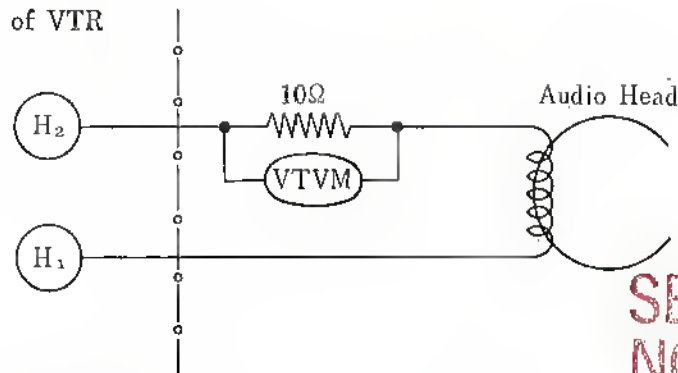

Fig. 54
1. Insert a 10Ω resistor between the H₂ terminal on the printed circuit board and the audio record head, and connect a high-sensitivity VTVM (capable of reading 1 mV) across the resistor, as shown in Fig. 54.